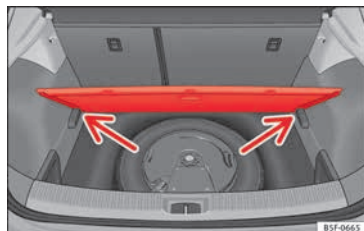

Fig. 178 Luggage compartment: variable floor
- Rest the floor on its housings » **Fig. 178** (arrows).